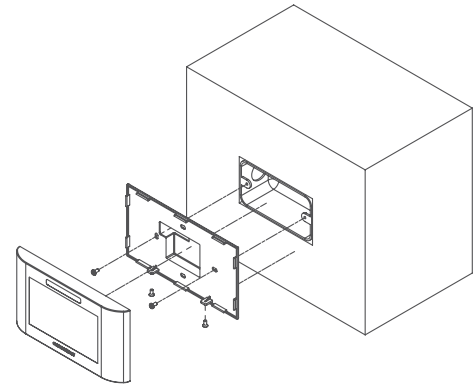

Figure 2
- ① Use a small slot head screwdriver to gently separate the back of the MEC Screen Touch Screen.
- ② Use the two included #06-32 x 1 1/2" screws to attach the back panel to a horizontally mounted electrical box (see Fig. 2).
- ③ Carefully position the front of the MEC Screen Touch Screen over the back panel and gently snap it into place (see Fig. 2).
- ④ Use two of the included #04-40 x 1/4" screws to secure the MEC Screen Touch Screen to back panel (see Fig. 2).